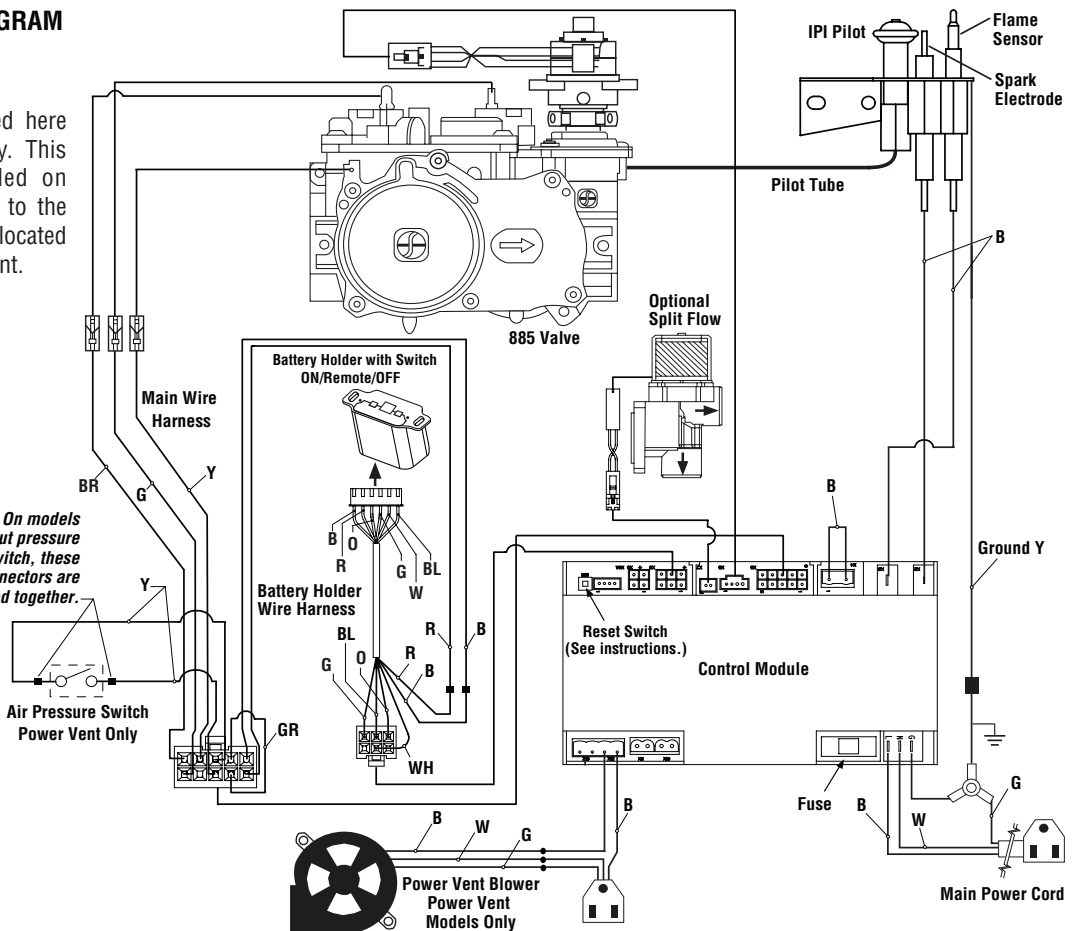

Figure 32
4. Connect the black power supply wire to the power outlet's red pigtail lead and the white power supply wire to the common terminal of the outlet as shown in Figures 32 and 33.